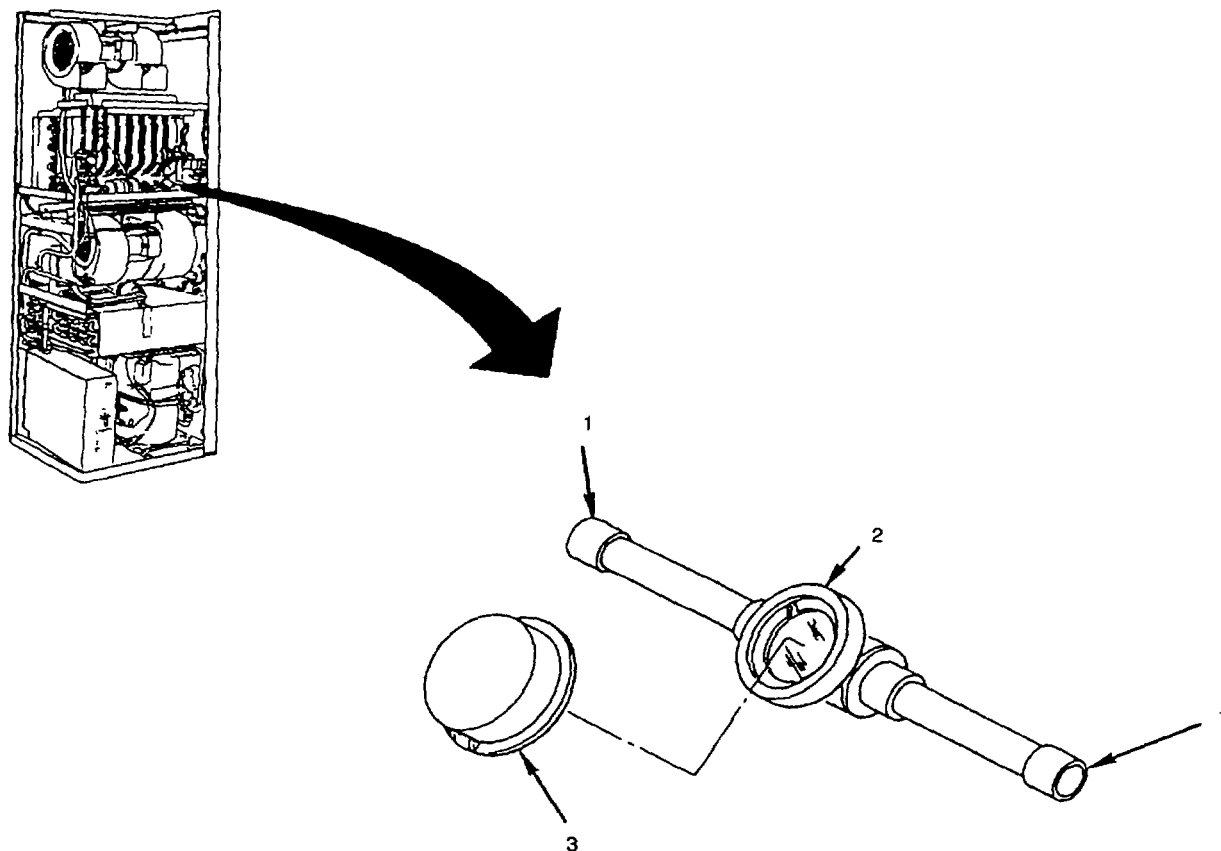

Figure 5-15. Sight Refrigerant Glass
- a. Aspect for evidence of leaks or damaged lines (see fig. 5-15).